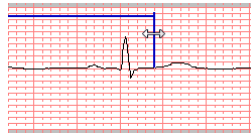

Figure 269 – Editing a defined Marker
2. Press the left mouse button and move the cursor to a new location (see Figure 269). The measurement border will be moved with the mouse cursor.